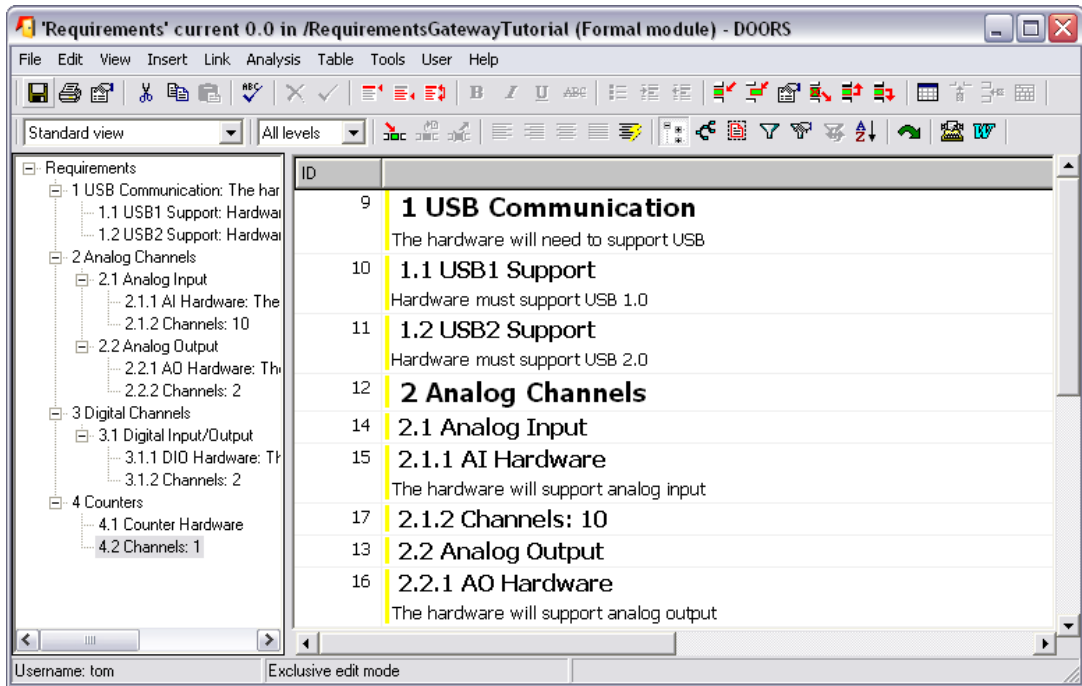

Figure 10-4. DOORS Formal Module Window
7. Double-click the **Requirements** module to open the Formal Module window, as shown in Figure 10-4.